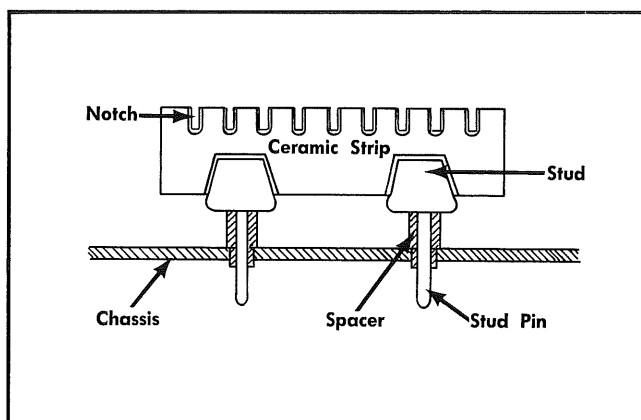

Fig. 4-2. Ceramic terminal strip assembly.
**Ceramic Terminal Strip Replacement.** A complete ceramic terminal strip assembly is shown in Fig. 4-2. Replace-